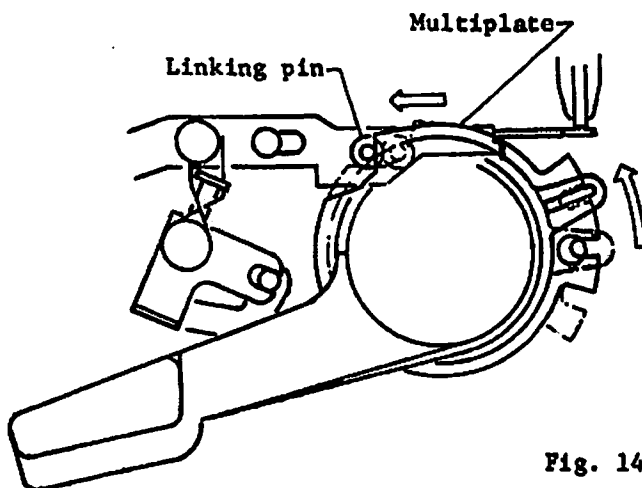

Fig. 143
- 2) When Multiexposure lever is moved forward, Multi plate moves Linking pin of Operation lever, then Multiple exposure can be possible as shown in Fig. 143.